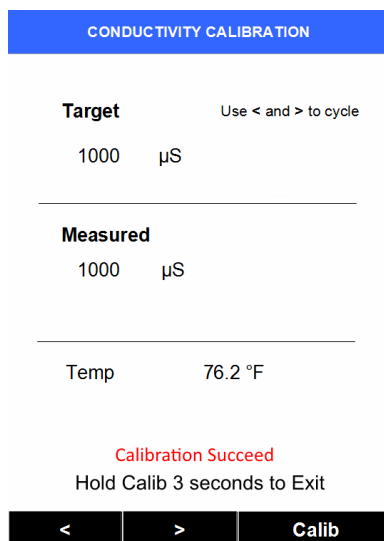

Figure 13
- 11) After successful conductivity calibration, the meter will read the sample and display the value in the measured section. A slight variance from the target is not problematic. A message will display in red "Calibration Succeed". The meter display will appear similar to Figure 13.